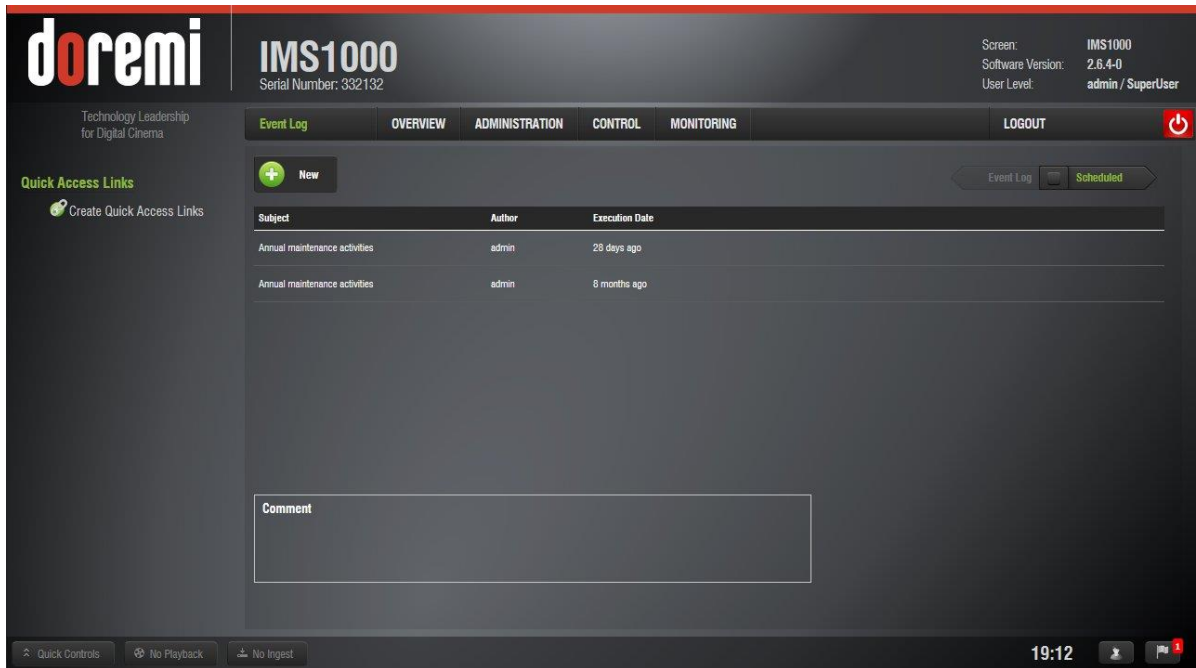

Figure 354: Log Operator Maintenance
- Record the maintenance in the Log Operator Maintenance (Administration → Control Panel → Log Operator Maintenance) application (Figure 354). See Section 12.11 for more information.